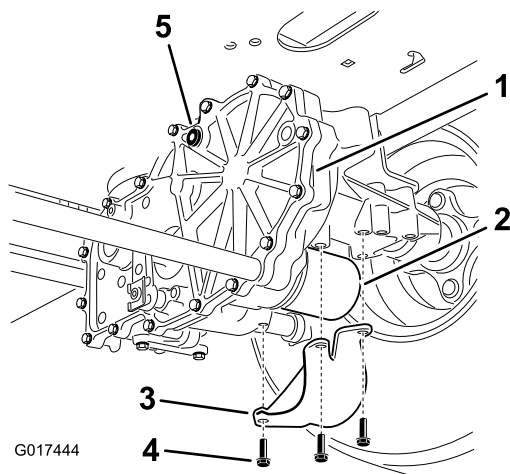

Figure 71
4. Locate the filter and guards on each transaxle-drive system (Figure 71).
5. Remove the 3 screws securing the filter guard and guard (Figure 71).